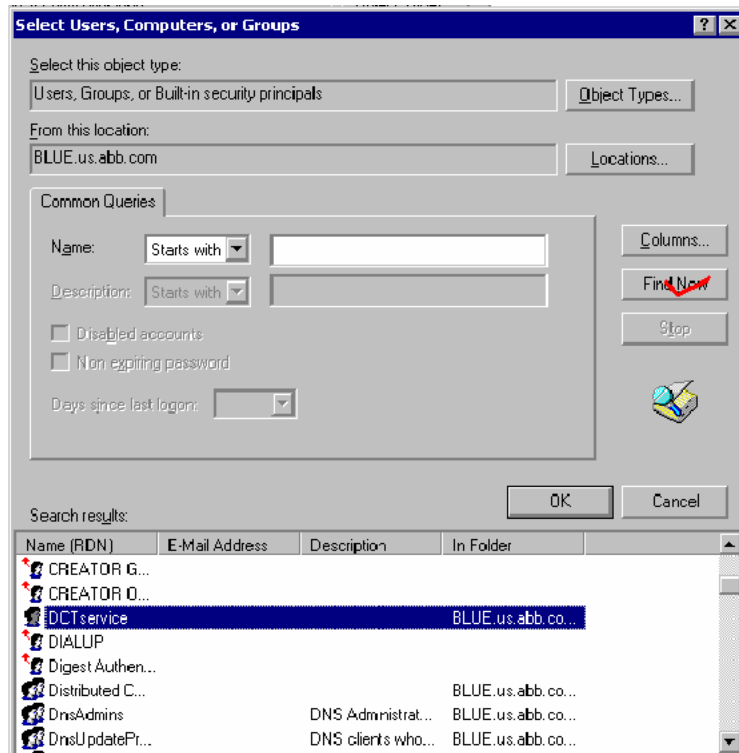

Figure 12. Granting the DCTService User Log On as a Service Rights
- f. Click **Advanced** to open the dialog box shown in Figure 12.